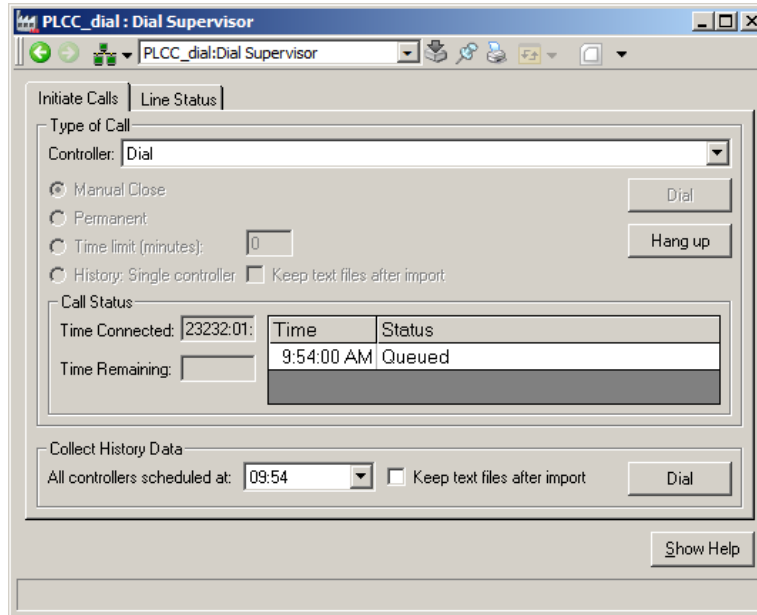

Figure 30. Dial Supervisor Aspect
The Dial Supervisor aspect as shown in Figure 30 is an aspect of Generic Control Network in Control Structure. It contains functions to initiate, monitor (supervise) and terminate calls to remote controllers in a specific control network.
2. In the Aspect List area, select Dial Supervisor aspect as shown in Figure 30.